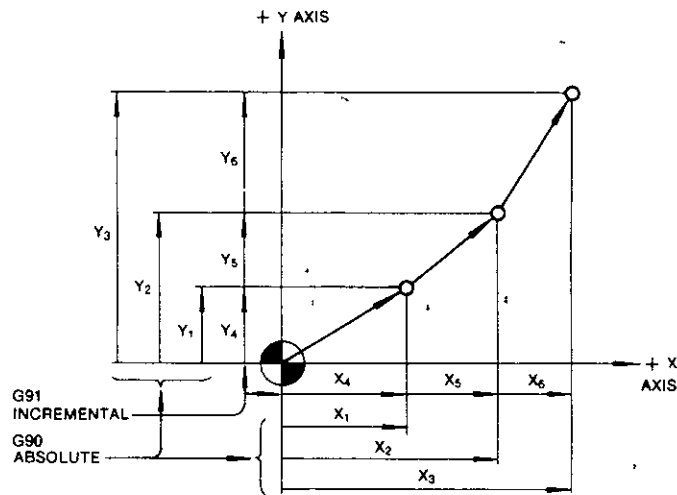

Fig 3 30
(2) G91 Incremental Designation (Fig 3 30)